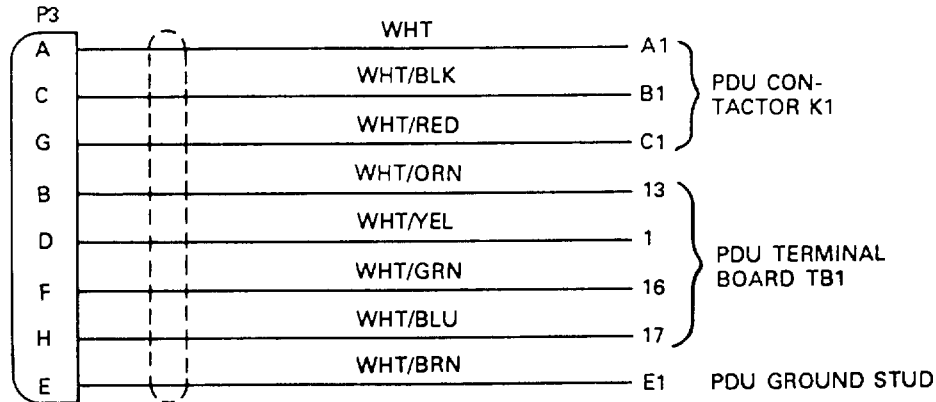

Figure 4-7. P3 Power/Control Cable Wiring Diagram.
4-21. **P3 Power/Control Cable Testing.** (See figure 4-7) The P3 power/control cable runs from the PDU to J3 on the adapter plate assembly A continuity test is used to detect faults In the cable.
- g. Repeat steps d through f for each remaining wire in cable. Refer to figure 4-7 for correct ongoing and destination of each wire.
- (1) Install loop clamps (23) on cable and fasten each clamp to trailer frame with one screw (20), one flat washer (21) and one self-locking nut (22).
- (2) Slide gland nut (13) onto cable.
- (3) Collapse cable grip (15) and slide cable grip onto cable. Stretch cable grip so that fitting is about two inches from end of cable outer jacket, and mesh is taut.
- (4) Slide gland washer (16), rubber bushing (17) and interconnector (14) onto cable.
- (5) Slide gland nut (13) over cable grip fitting, and connect interconnector (14) to gland nut (13).
- (6) Slide nylon bushing (19) over cable and into interconnector (14).
- (7) Roll back cable shielding over beveled edge of nylon bushing (19).
- (8) Slide sealing grip body (18) over cable and connect to interconnector (14).
- (9) Slide EMI gasket (12) and one locknut (10) onto cable. Feed wires through opening in PDU housing (11) and secure with locknut (10).
- (10) Connect cable wires to terminal board TB1 (4), ground stud (5) and K1 contactor (9). Replace contactor cover (8). Refer to figure 4-7 for correct termination of each wire.
- (11) Close and secure cover (3).
- (12) Connect P3 connector (1) to J3 connector on adapter plate assembly (2).